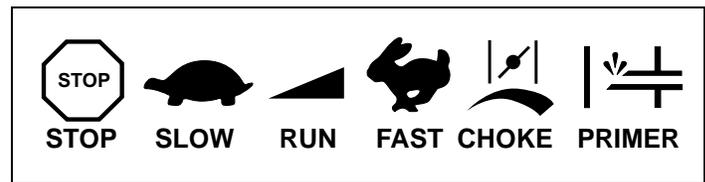

Figure 9. Typical Control Symbols
- c. Move throttle control to desired speed in "RUN" range. See Figures 9 and 10.